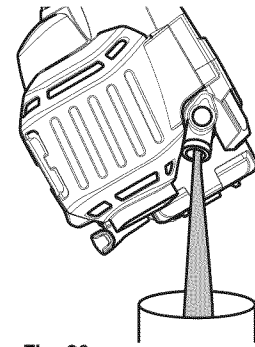

Fig. 26
3. Tip the unit vertically to pour the oil out of the oil fill hole and into a container (Fig. 26). Allow ample time for complete drainage.